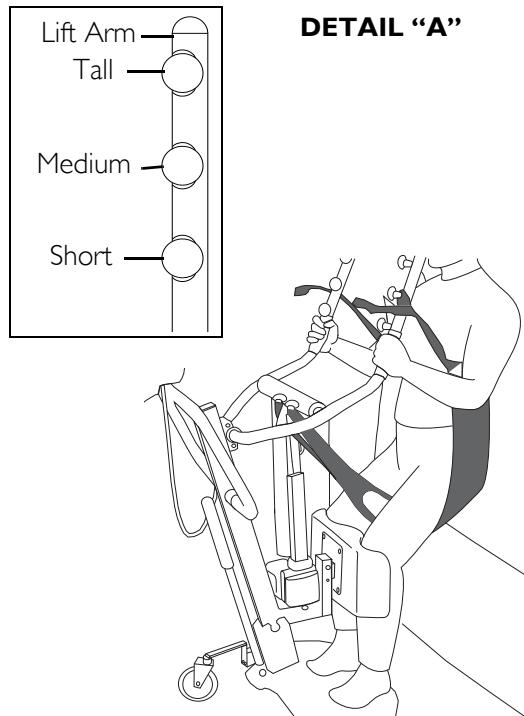
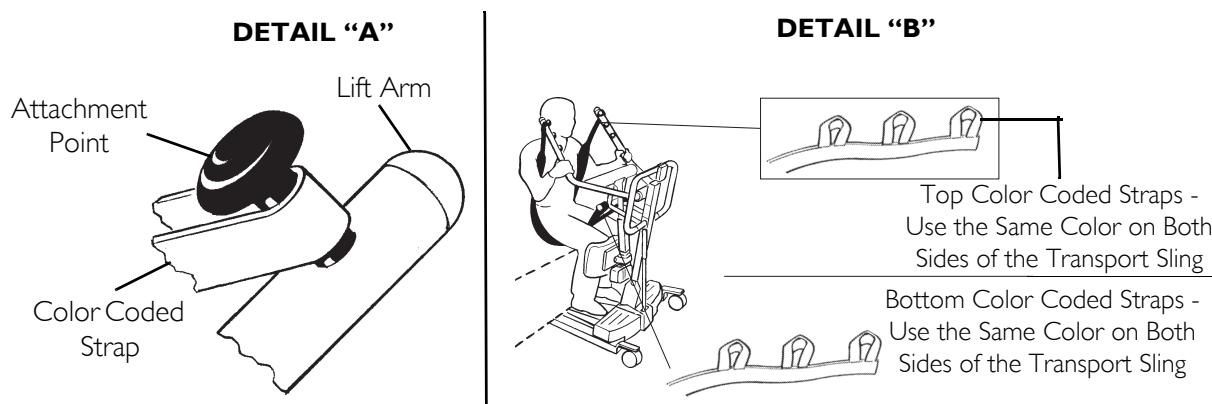

FIGURE 6.4 Attaching Slings to the Stand Up Lift - Transport Slings
FIGURE 6.5 Attaching Slings to the Stand Up Lift - Transport or Transfer Slings
NOTE: For this procedure, refer to FIGURE 6.4 and FIGURE 6.5 on page 23.
Make sure the color coded strap sits flush against the attachment knob in Detail "A" of FIGURE 6.5 on page 23, otherwise injury or damage can result.
- The same bottom color coded strap is used on each side of the sling. Refer to Detail "B" of FIGURE 6.5.